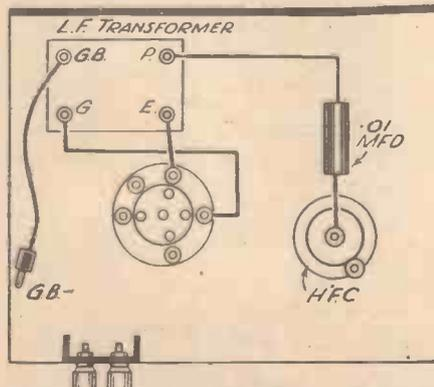
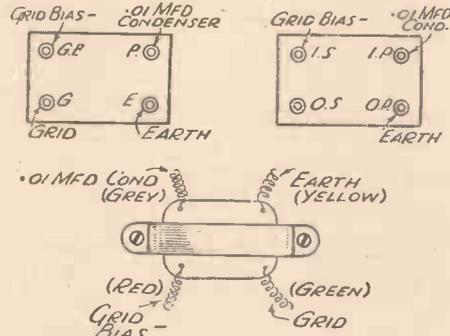

Fig. 3.—Practical connections for the L.F. transformer shown diagrammatically in Fig. 2.
Fig. 4.—Alternative connections for different types of small L.F. transformer.
In Fig. 3 we show you how the transformer is wired into the set. For the time being the grid leak has been removed, the grid-bias lead which was joined to it being taken to the G.B. terminal of the transformer. Additionally, the wire-end lead from the .01-mfd. condenser has been taken off the grid terminal of the valveholder and connected to the P. terminal of the transformer. As to the other two transformer terminals, one (E) is joined to earth, and the other (G) is connected to the grid terminal of the pentode valveholder. At this point we ought to mention the connections to different transformers, because the markings vary to a certain extent. Fig. 4 shows you how the connections to a few suitable transformers compare. You will see, for example, that the terminals marked P., E., G. and G.B. shown in Fig. 3 correspond with those marked I.P., O.P., O.S. and I.S. on another transformer, whilst they also correspond with flexible leads coloured grey, yellow, green and red on the Bulgin L.F. 33 component. It can
also be seen that, when using an ordinary type of L.F. transformer which the constructor might have on hand, the terminal marked H.T. or H.T.+ corresponds with that marked E. on the other transformer illustrated in Fig. 3.